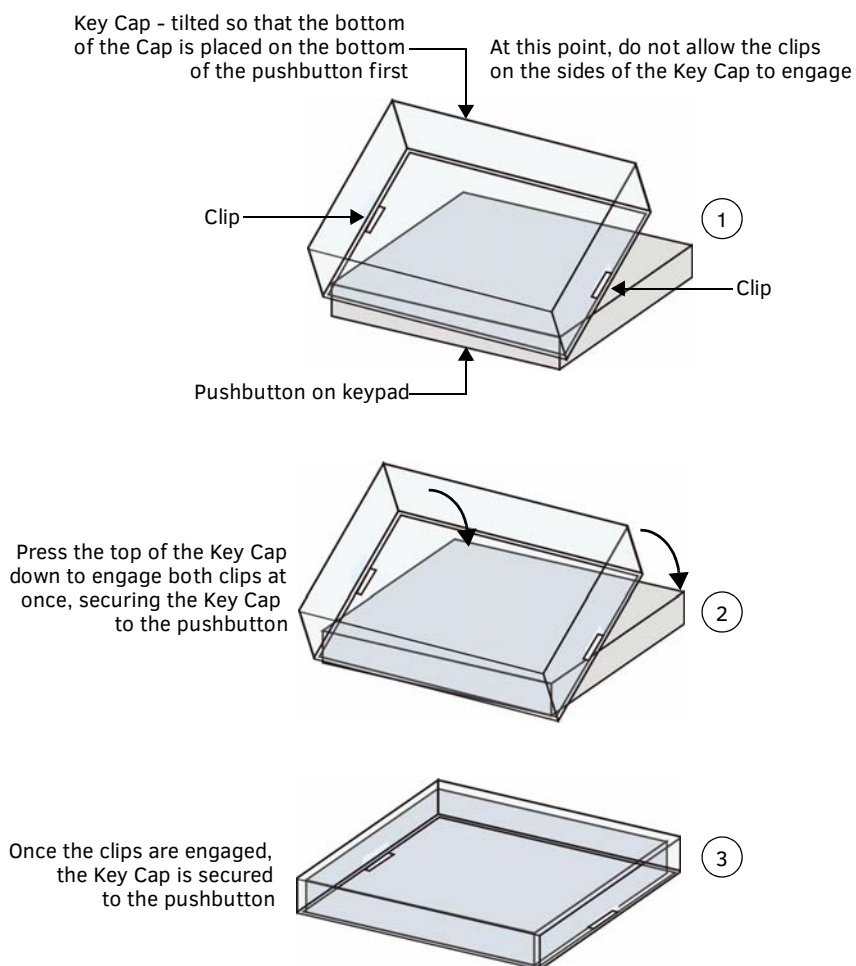

FIG. 30 Placing a Button Label inside a Key Cap
3. Install the Key Cap on the pushbutton (FIG. 30):